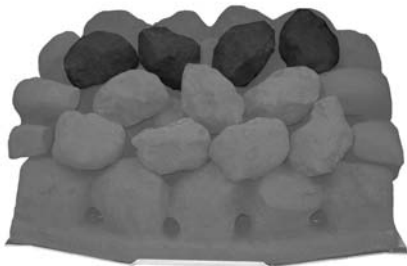

Fig. 25
7. Lay another row of four coals on the next row up, again making sure all the gaps are even (Fig. 25).